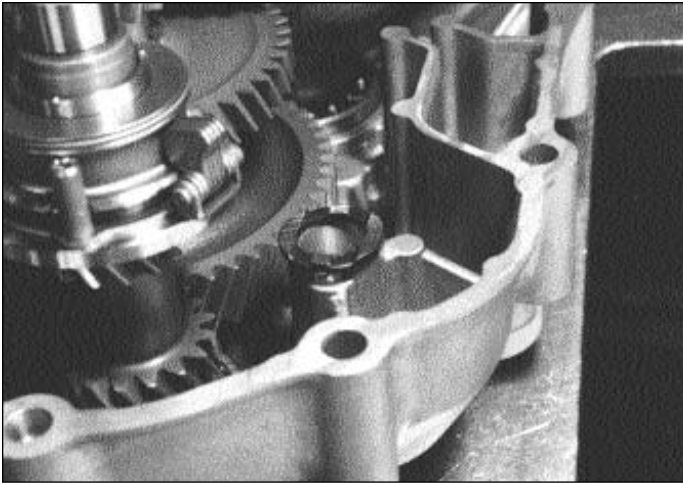

Figure 46 - Position Spacer
12. Place the spacer on counter shaft bore in lower case with the oil groove to the top side. See Figure 46.